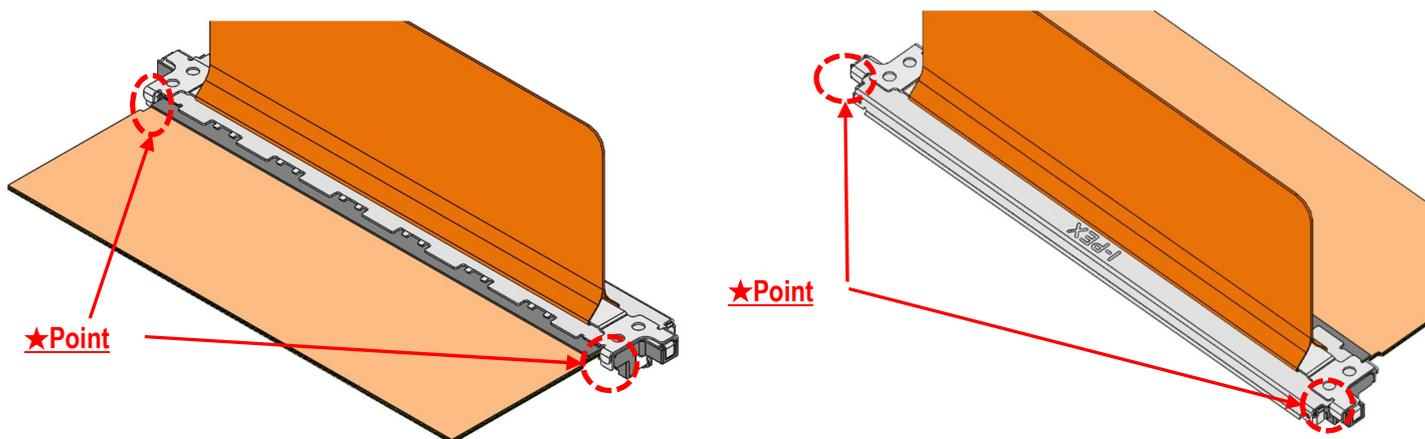

Fig.22 The Assembly Confirmation of Pull Tape Holder
- ② Make sure that pull tape holder is assembled properly.(Fig.22★Point)